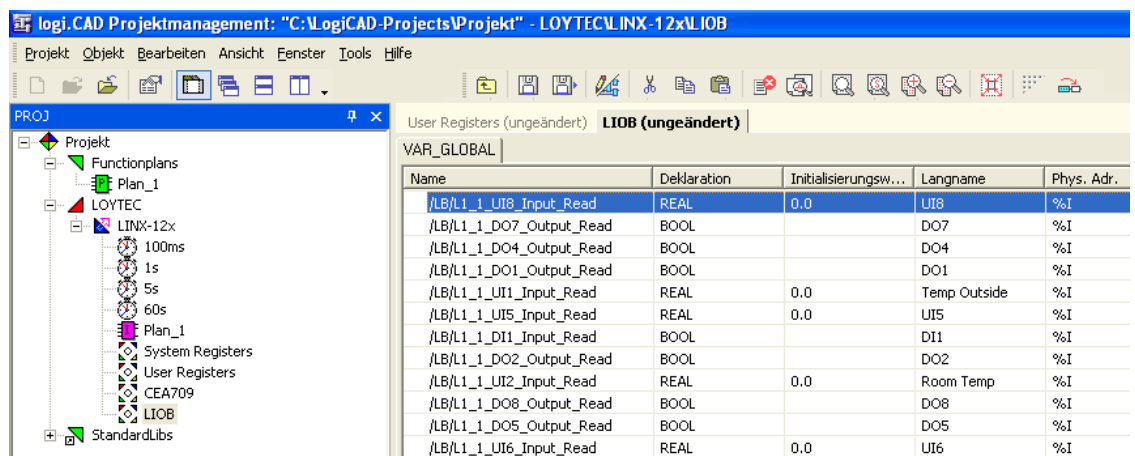

Figure 54: Exposed PLC data points appear in LogiCAD
10. The data points now appear as variables in LogiCAD in a folder under the device folder. The folder is named specific to the technology of the data points, e.g. LIOB for all L-IOB I/Os that are exposed as a PLC variable. An example is shown in Figure 54.